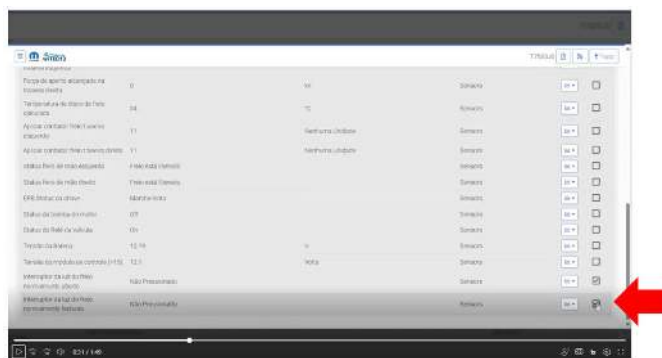

Fig. 4
6. Select the brake light switch in the DATA function, the two options normal open and normal closed Fig. 4.